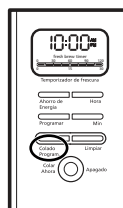

Figure 9
3. To activate the delay brew function and program your coffee maker to brew coffee at a later time, press the delay brew “Colado Program.” button once. The coffee brew “Colado Program.” light will illuminate. The coffee maker is now set to automatically brew coffee at the pre-set time (Figure 9).
Press the delay brew “Colado Program.” button until all lights turn off (Figure 9).